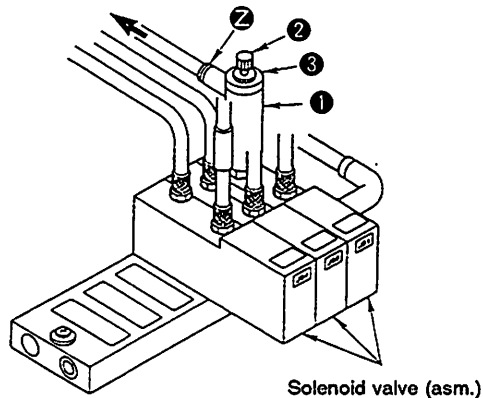
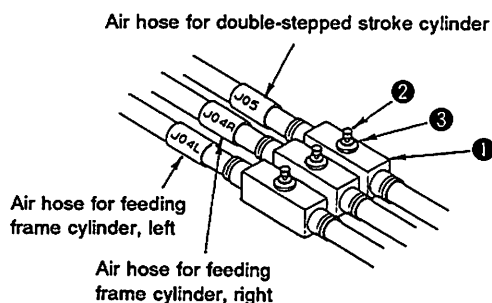

Fig. 4-3-2
Fig. 4-3-3
- 3) The air pressure on the feeding frame cylinder retracting side has been reduced to 1 to 1.5 kgf/cm² (0.1 MPa to 0.15 MPa) and the feeding frame can be lowered by hand. (Fig. 4-3-2)
- 4) The needle knob of the speed controller (for work clamp cylinder) has been fixed at the position that is reached by loosening the knob by one turn after fully tightening it. (Fig. 4-3-3)
<ol style="list-style-type: none"> 1) Connect air supply hose to quick-coupling joint (female) ❶ and fasten the hose with hose band ❸. 2) Connect female side ❶ and male side ❹ of the quick-coupling joint. 3) Open air cock ❺, pull up air regulating knob ❻ and then adjust the air pressure, by turning the knob, to allow pressure gauge ❼ to indicate an air pressure of 5 to 5.5 kgf/cm² (0.5 MPa to 0.55 MPa). Then, press the knob down to remain at that position. 4) If the air pressure is lower than the specified value, the machine will stop while giving error [A] on the display. <ul style="list-style-type: none"> * Close air cock ❺ and press pushbutton ❸, and the air pressure will be 0 kgf/cm². <p>[Caution] After the adjustment, return the indication on pressure gauge ❼ to 5 to 5.5 kgf/cm² (0.5 MPa to 0.55 MPa). Now confirm that Error [A] is not displayed any longer.</p> <ol style="list-style-type: none"> 5) Set the machine in its sewing state. Now remove the air hose by pressing section ❷ of pressure reducing valve ❶ which is fixed on the solenoid valve (asm.), and connect a commercially available pressure gauge instead of the removed air hose. (Fig. 4-3-2) Depress the feeding frame switch 5 times or more, and turn needle knob ❷ of pressure reducing valve ❶ until the connected pressure gauge indicates 1 to 5 kgf/cm² (0.1 MPa to 0.5 MPa). Then fix the needle knob using nut ❸. Now, securely connect the removed air hose in place. (Fig. 4-3-2) 6) Referring to the Standard adjustment (3)-4), properly adjust needle knob ❷ of speed controller ❶ and fix the knob with nut ❸. (Fig. 4-3-3 and 4-3-4) 7) Remove the top cover. Referring to the Standard adjustment (3)-5), adjust needle knob ❷ of speed controller ❶ properly. After the adjustment, fix it using nut ❸. (Fig. 4-3-5) 	<ol style="list-style-type: none"> 1) Function failure of the feeding frame components and intermediate presser components may result. The machine stops with Error [A] indicated on the operation box panel. 2) Even if the air pressure drops, it cannot be detected. Under the normal operating air pressure (5 to 5.5 kgf/cm² (0.5 MPa to 0.55 MPa)), the sewing machine stops with Error [A] indicated on the operation panel. 3) An adequate work clamp pressing pressure is not provided. 4) The speed of vertical motion of the feeding frame may be too high or too low. 5) The intermediate presser may fail to move smoothly, or it may generate a keen metallic noise when it is in operation. <p>[Caution] Normally, Standard adjustment (3)-2) through -5) are not required to be adjusted. Needle knobs and nuts referred in steps 3) through 5), in particular, have applied with oil-resistant white coating material to show that they have been already adjusted properly.</p> <ul style="list-style-type: none"> * To set the air pressure to 0 kgf/cm², close air cock ❺ and press button ❸. (See Fig. 4-3-1)